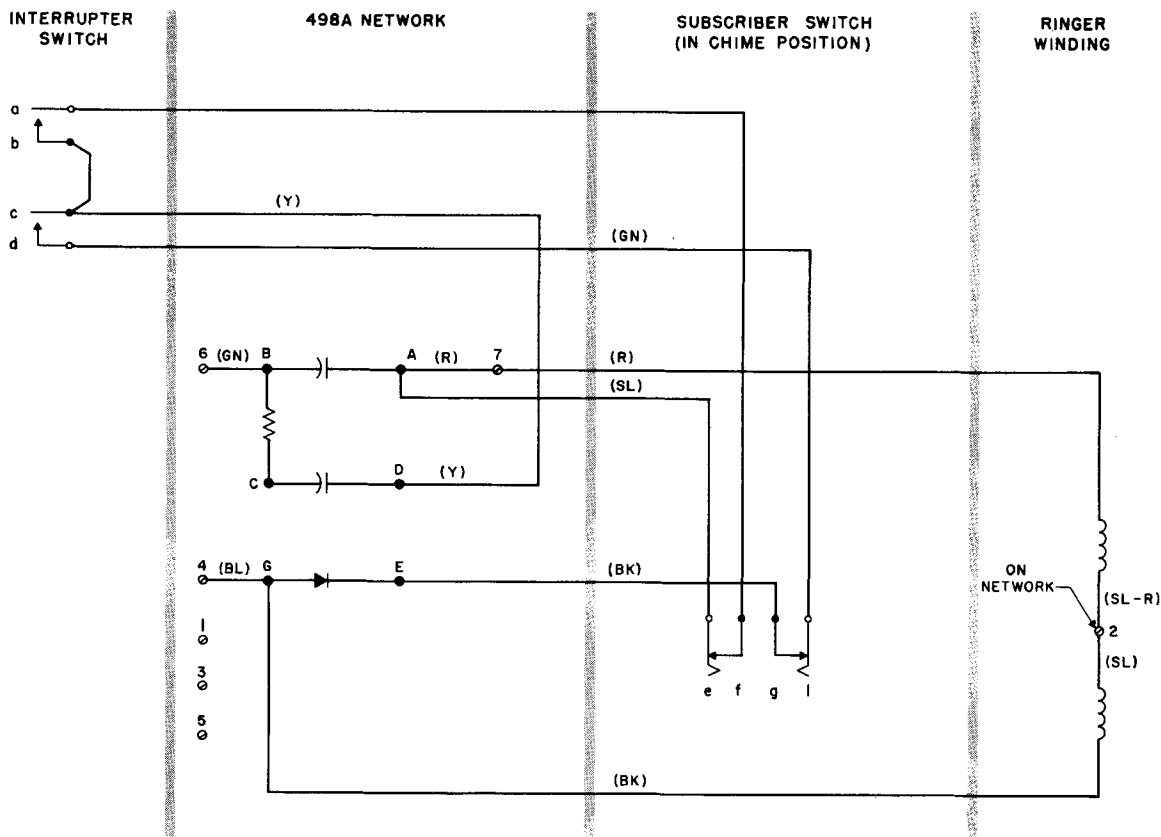

Fig. 3 - Circuit Drawing of FLA Ringer
- Circuit drawing is provided in Fig. 3.